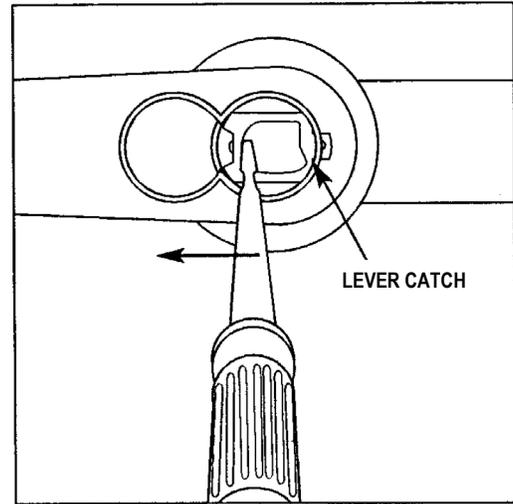

FIG. 21: REMOVING THE IC CORE LEVER
2. Use a screwdriver to push inside of lever catch to the side (see Fig. 21). Pull off the IC lever.